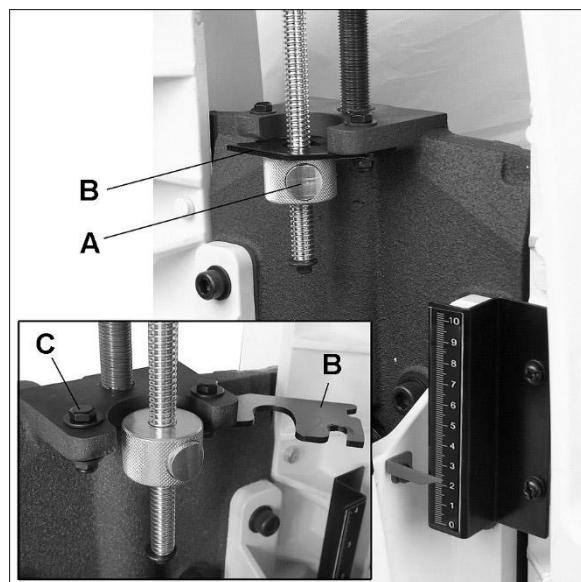

Figure 8-1
1. Rotate handle to position drum at final sanding depth according to scale. (Figure 8-1 shows 23mm final depth as example).
2. Press button on stop nut to slide nut into general position, then rotate nut until it firmly contacts bottom of plate (B).